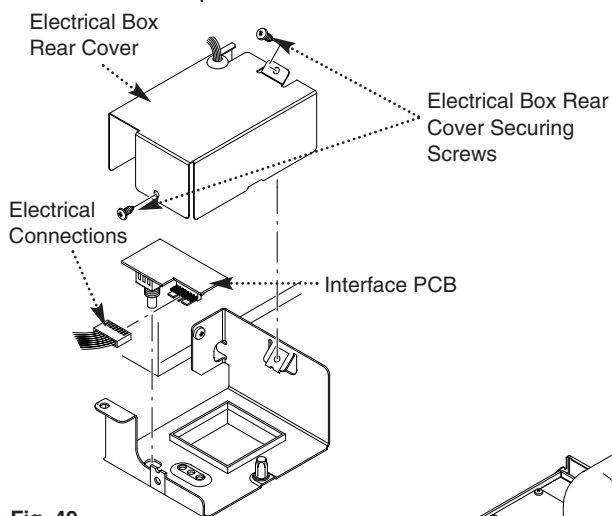

Fig. 48
2. Release the electrical box securing screw and hinge the electrical box down (Fig. 48).